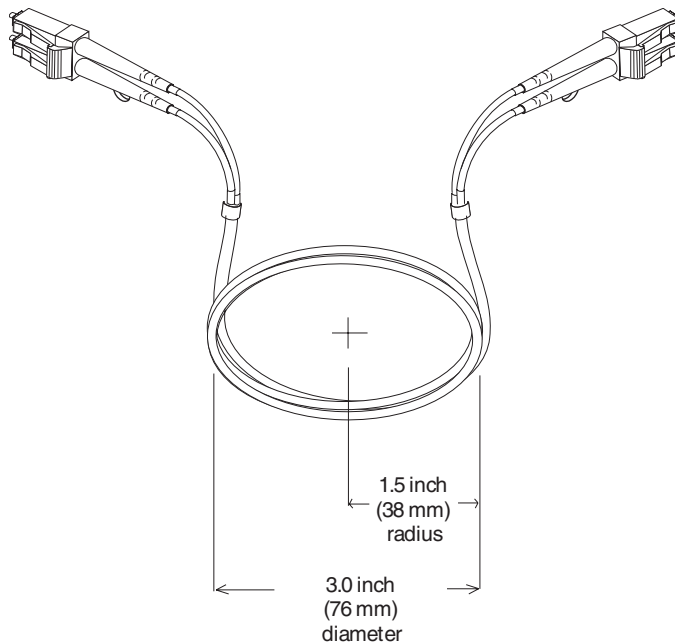

Figure 24. Bending and looping specifications for fiber-optic cables
- When storing excess or unused fiber-optic cables, do not bend the cables to a diameter of less than 76 mm (3 in.), or a radius less than 38 mm (1.5 in.) or wrap them around themselves. See Figure 24 on page 46.